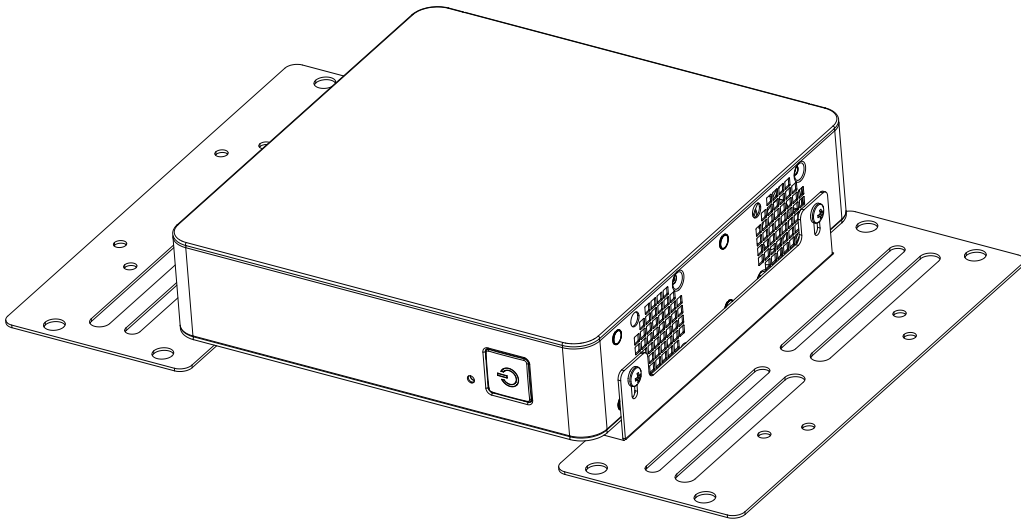
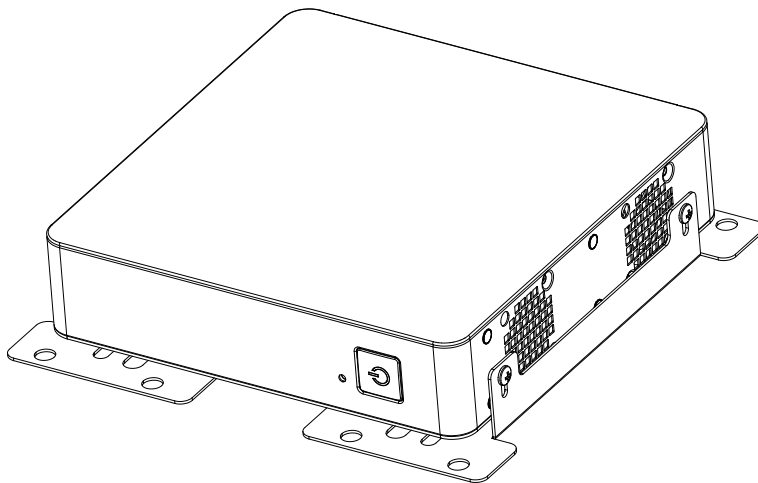

Figure 1-5. Installing Mounting Brackets
Figure 1-6. Installed Mounting Brackets
1. Choose the desired bracket mounting configuration. Note that the brackets can be installed in two orientations--with the brackets extending out from the chassis (as Figure 1-5), or the brackets under the chassis (as Figure 1-6).